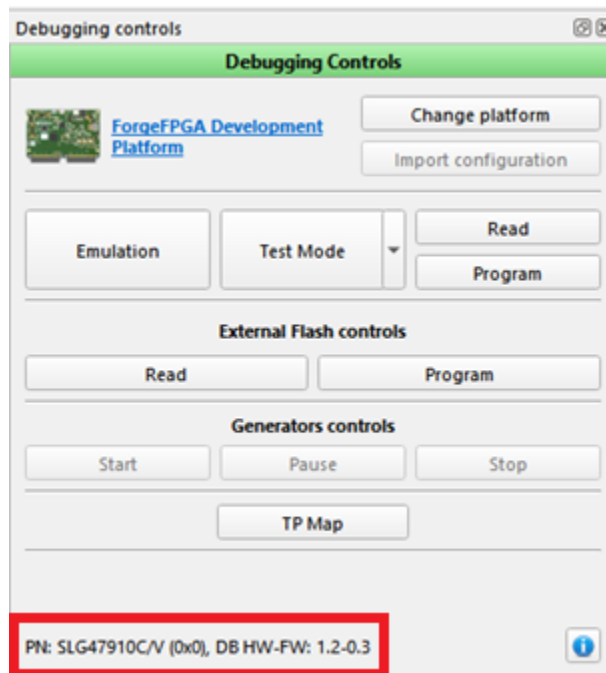

Figure 30. Debugging Controls
Now let's review the different parts of the Debugging Controls (Figure 30).
After the Development board with the chip in the Socket Adapter Board has been connected, we can see the PN (Part Number) SLG47910 being displayed at the bottom of the Debugging Controls Dialog Box (Figure 30). The Debugging Control Window also indicates the Development Boards (DB) Hardware (HW) and Firmware (FW) version.